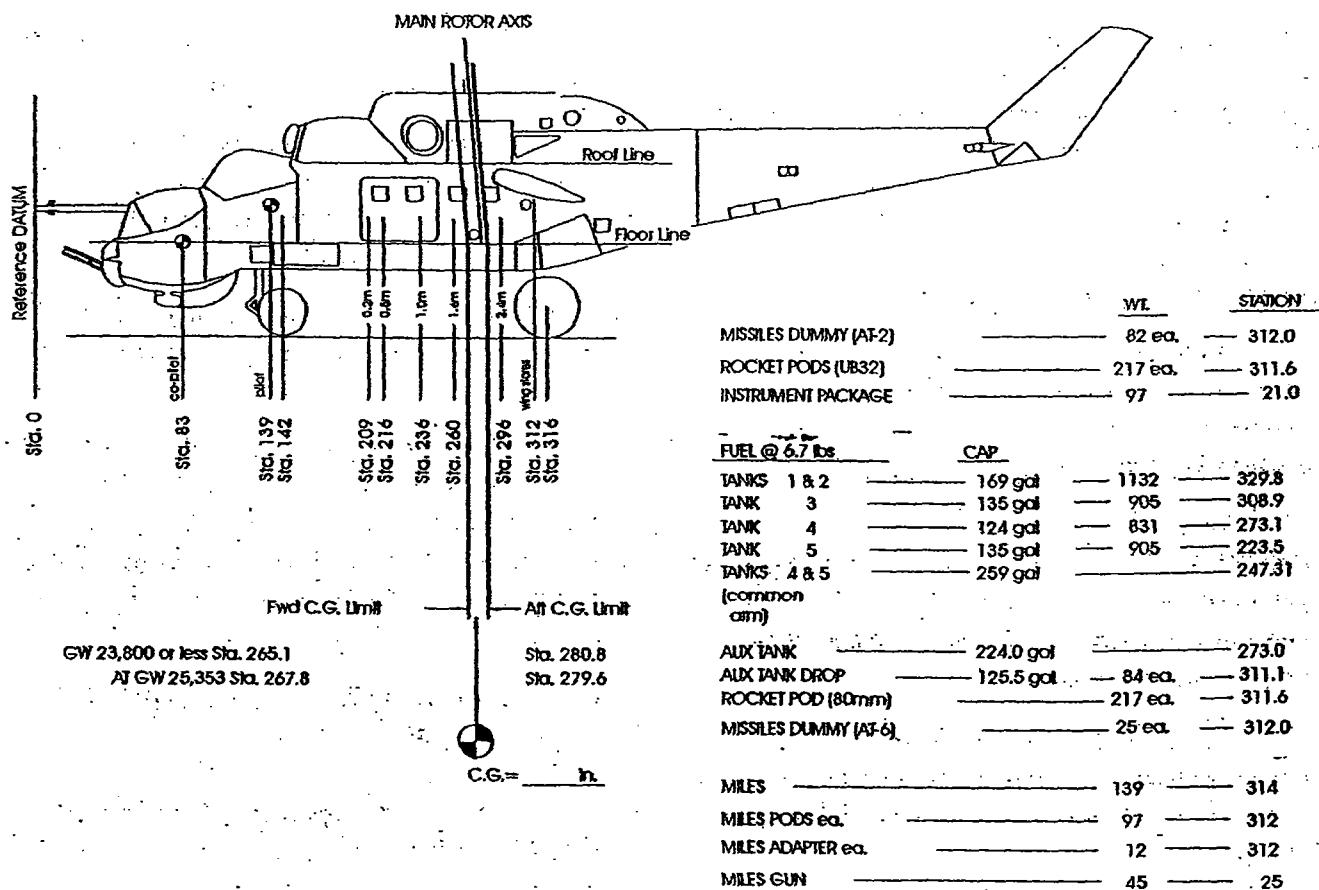

Figure 6-1 Mi-24/25/35 Weight and Balance Worksheet
Figure 6-1 shows the helicopter reference datum lines, fuselage stations, wing stations and jack pad locations. The primary purpose of the figure is to aid personnel in the computation of helicopter weight/balance and loading.
B. Arm. Arm, for balance purposes, is the horizontal distance in inches from the reference datum line to the CG of the item. Arm may be determined from the helicopter diagram in Figure 6-1.
OTSA aircraft are always refueled to a full fuel status. This is 563 gallons or 2130 liters (3826 lbs). An internal auxiliary tank can be installed that holds 259 gallons or 980 liters. Figure 6-1 shows fuel arm for normal and auxiliary fuel.
All armament is loaded on appropriate wing stations. Weights and arms for typical stores are shown in Figure 6-1.